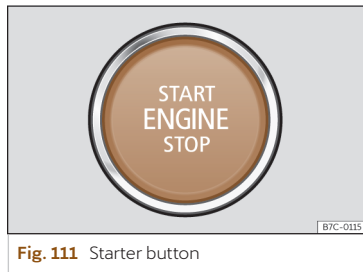

Fig. 111 Starter button
When entering the vehicle, the start button  **Fig. 111** flashes to draw attention to it.
- Press the start button >>> **Fig. 111** without pressing the accelerator. There must be a valid key in the vehicle for the engine to start. After starting the engine, the lighting of the START ENGINE STOP button remains fixed indicating that the engine is running¹⁾.
- Briefly press the start button >>> **Fig. 111**.